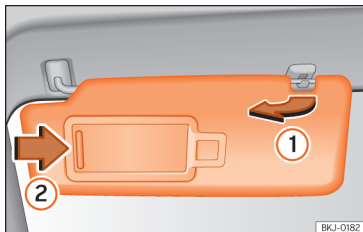

Fig. 81 Sun visor
- The sun visor can be pulled out of its mounting and turned towards the door >>> **Fig. 81** ①.